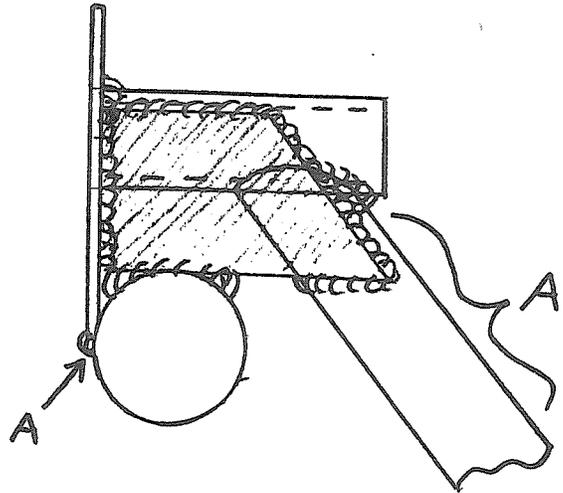
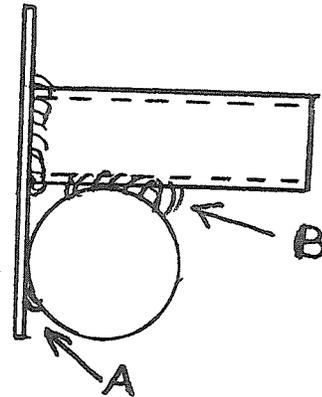
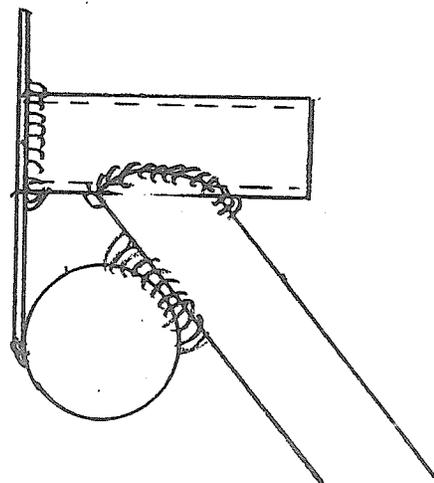

FIG. 1
FIG. 2
FIG. 3
On a structure currently being built, make and install the attach points as shown in fig. 2 & 3. Notice in figure 3 that the short diagonal has been lowered so that it can also be welded to the cross tube, and that in figure 2 the bushing is welded to the short cross tube. If the structure is already complete, then the welding should be accomplished (if not already done) as shown in figure 2 (B), and a reinforcing gusset of .065 4130 steel sheet should be made and welded in place as indicated in figure 1. If the aircraft has been flying than an inspection should be made of the areas, especially those areas as indicated in figures 1 and 2 denoted as "A".